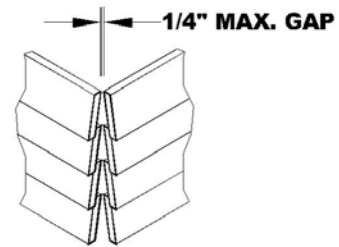

Figure 1
- a. Be sure to run the siding long enough at the corners. The top of the planks should almost meet at the corners. If the siding is installed 'short' at the corners, the siding corners may not be long enough to adequately cover the siding at the bottom. See Figure 1.